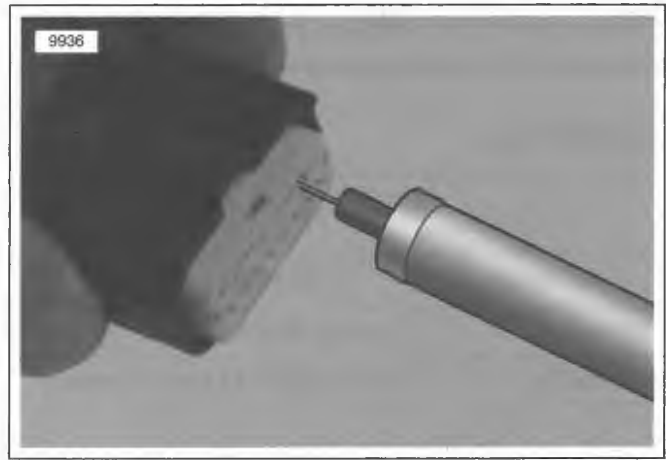

Figure B-41. Molex Connector Terminal Remover
2. See Figure B-41. Insert MOLEX ELECTRICAL CONNECTOR TERMINAL REMOVER (HD-48114) into the pin hole next to the terminal until the tool bottoms.